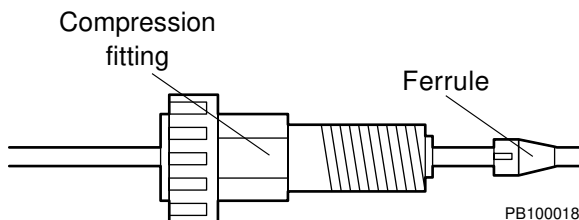

Figure 3-2 Connecting Rheodyne RheFlex Fittings to Tubing
- Rheodyne RheFlex® fittings (Figure 3-2)
2. Slip a split ferrule over the end of the tubing, with the tapered end of the ferrule pointing away from the compression fitting. The split end of the ferrule should point toward the compression fitting. Make sure at least 1/16-inch of tubing extends beyond the ferrule (Figure 3-2).